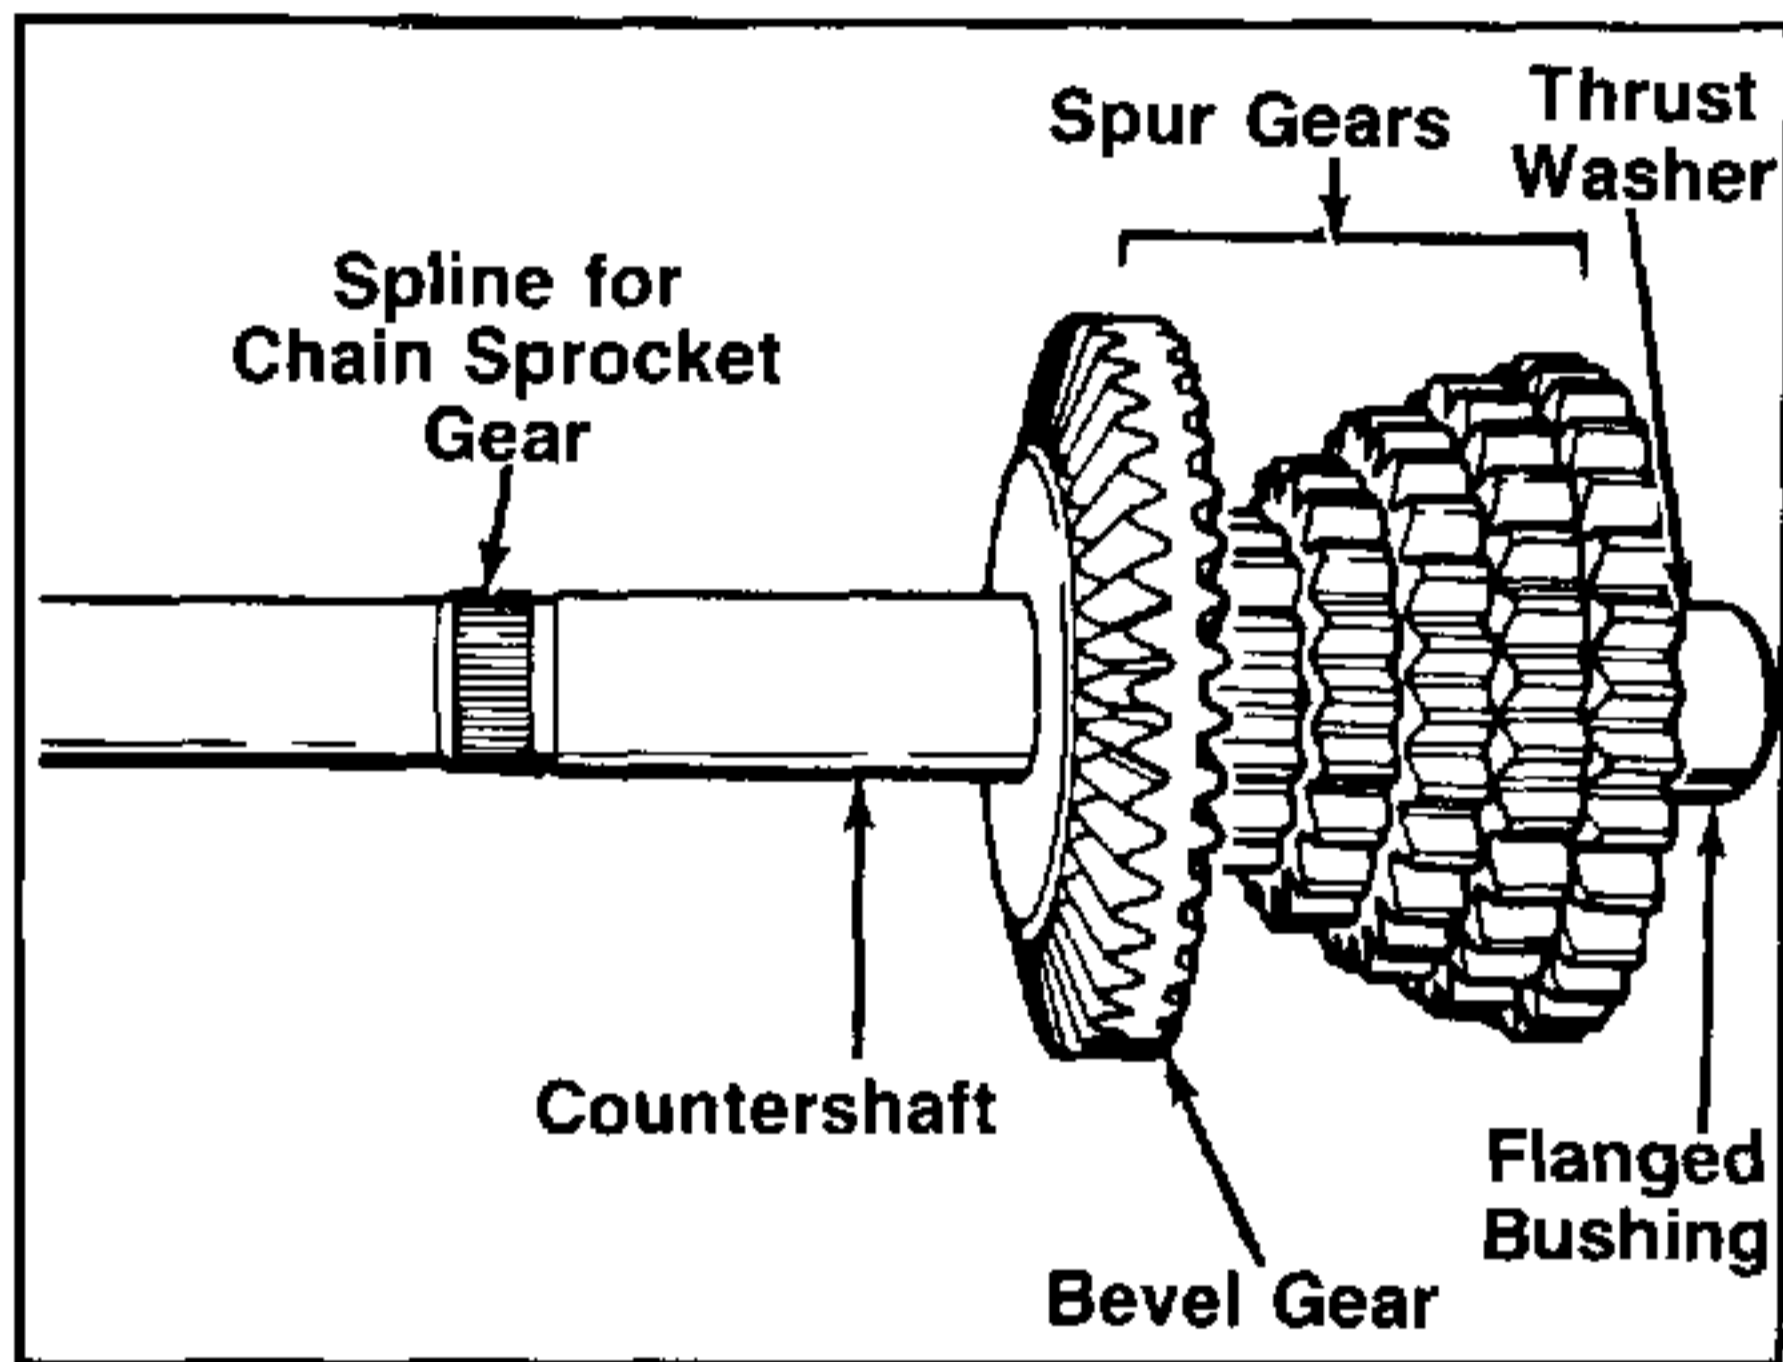

FIGURE 26.
- NOTE: The bevel gear may be installed one of two ways. The models used in Cub Cadet Lawn Tractors have the wide angle of the bevel gear facing the left as shown in figure 26.
- Install bevel gear and smallest to largest spur gears, thrust washer and bushing to the countershaft. Install the sprocket. See figure 26.